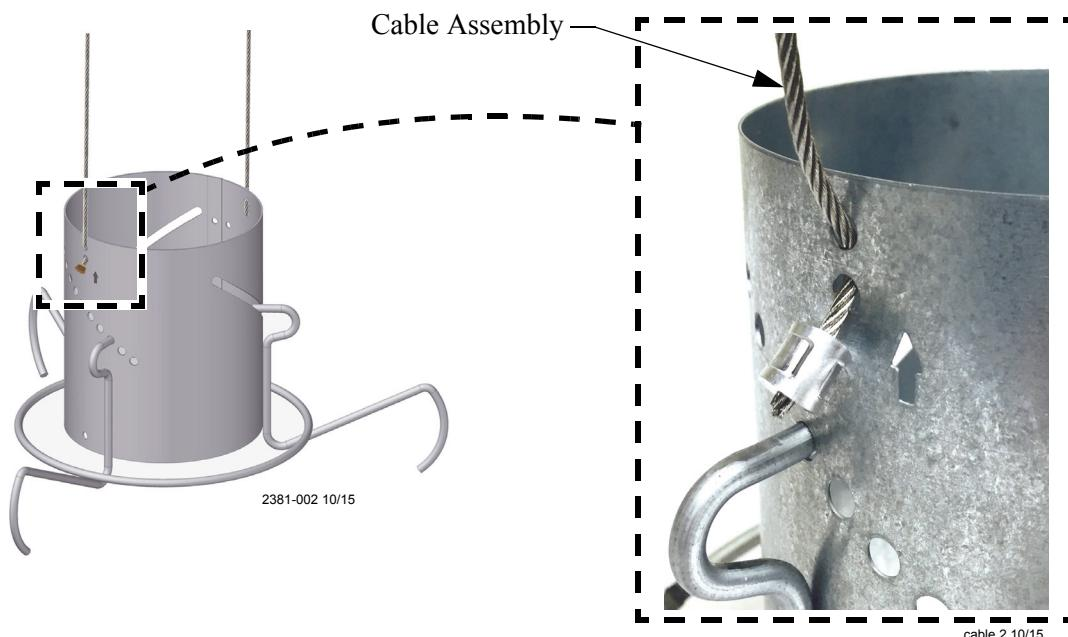

Figure 26.Attaching Cable Assemblies
- If the feed level tubes are to be winch adjustable, install the cable assemblies at this point (See Figure 26.) If the feed level tubes are not to be winch able, proceed to step 5.